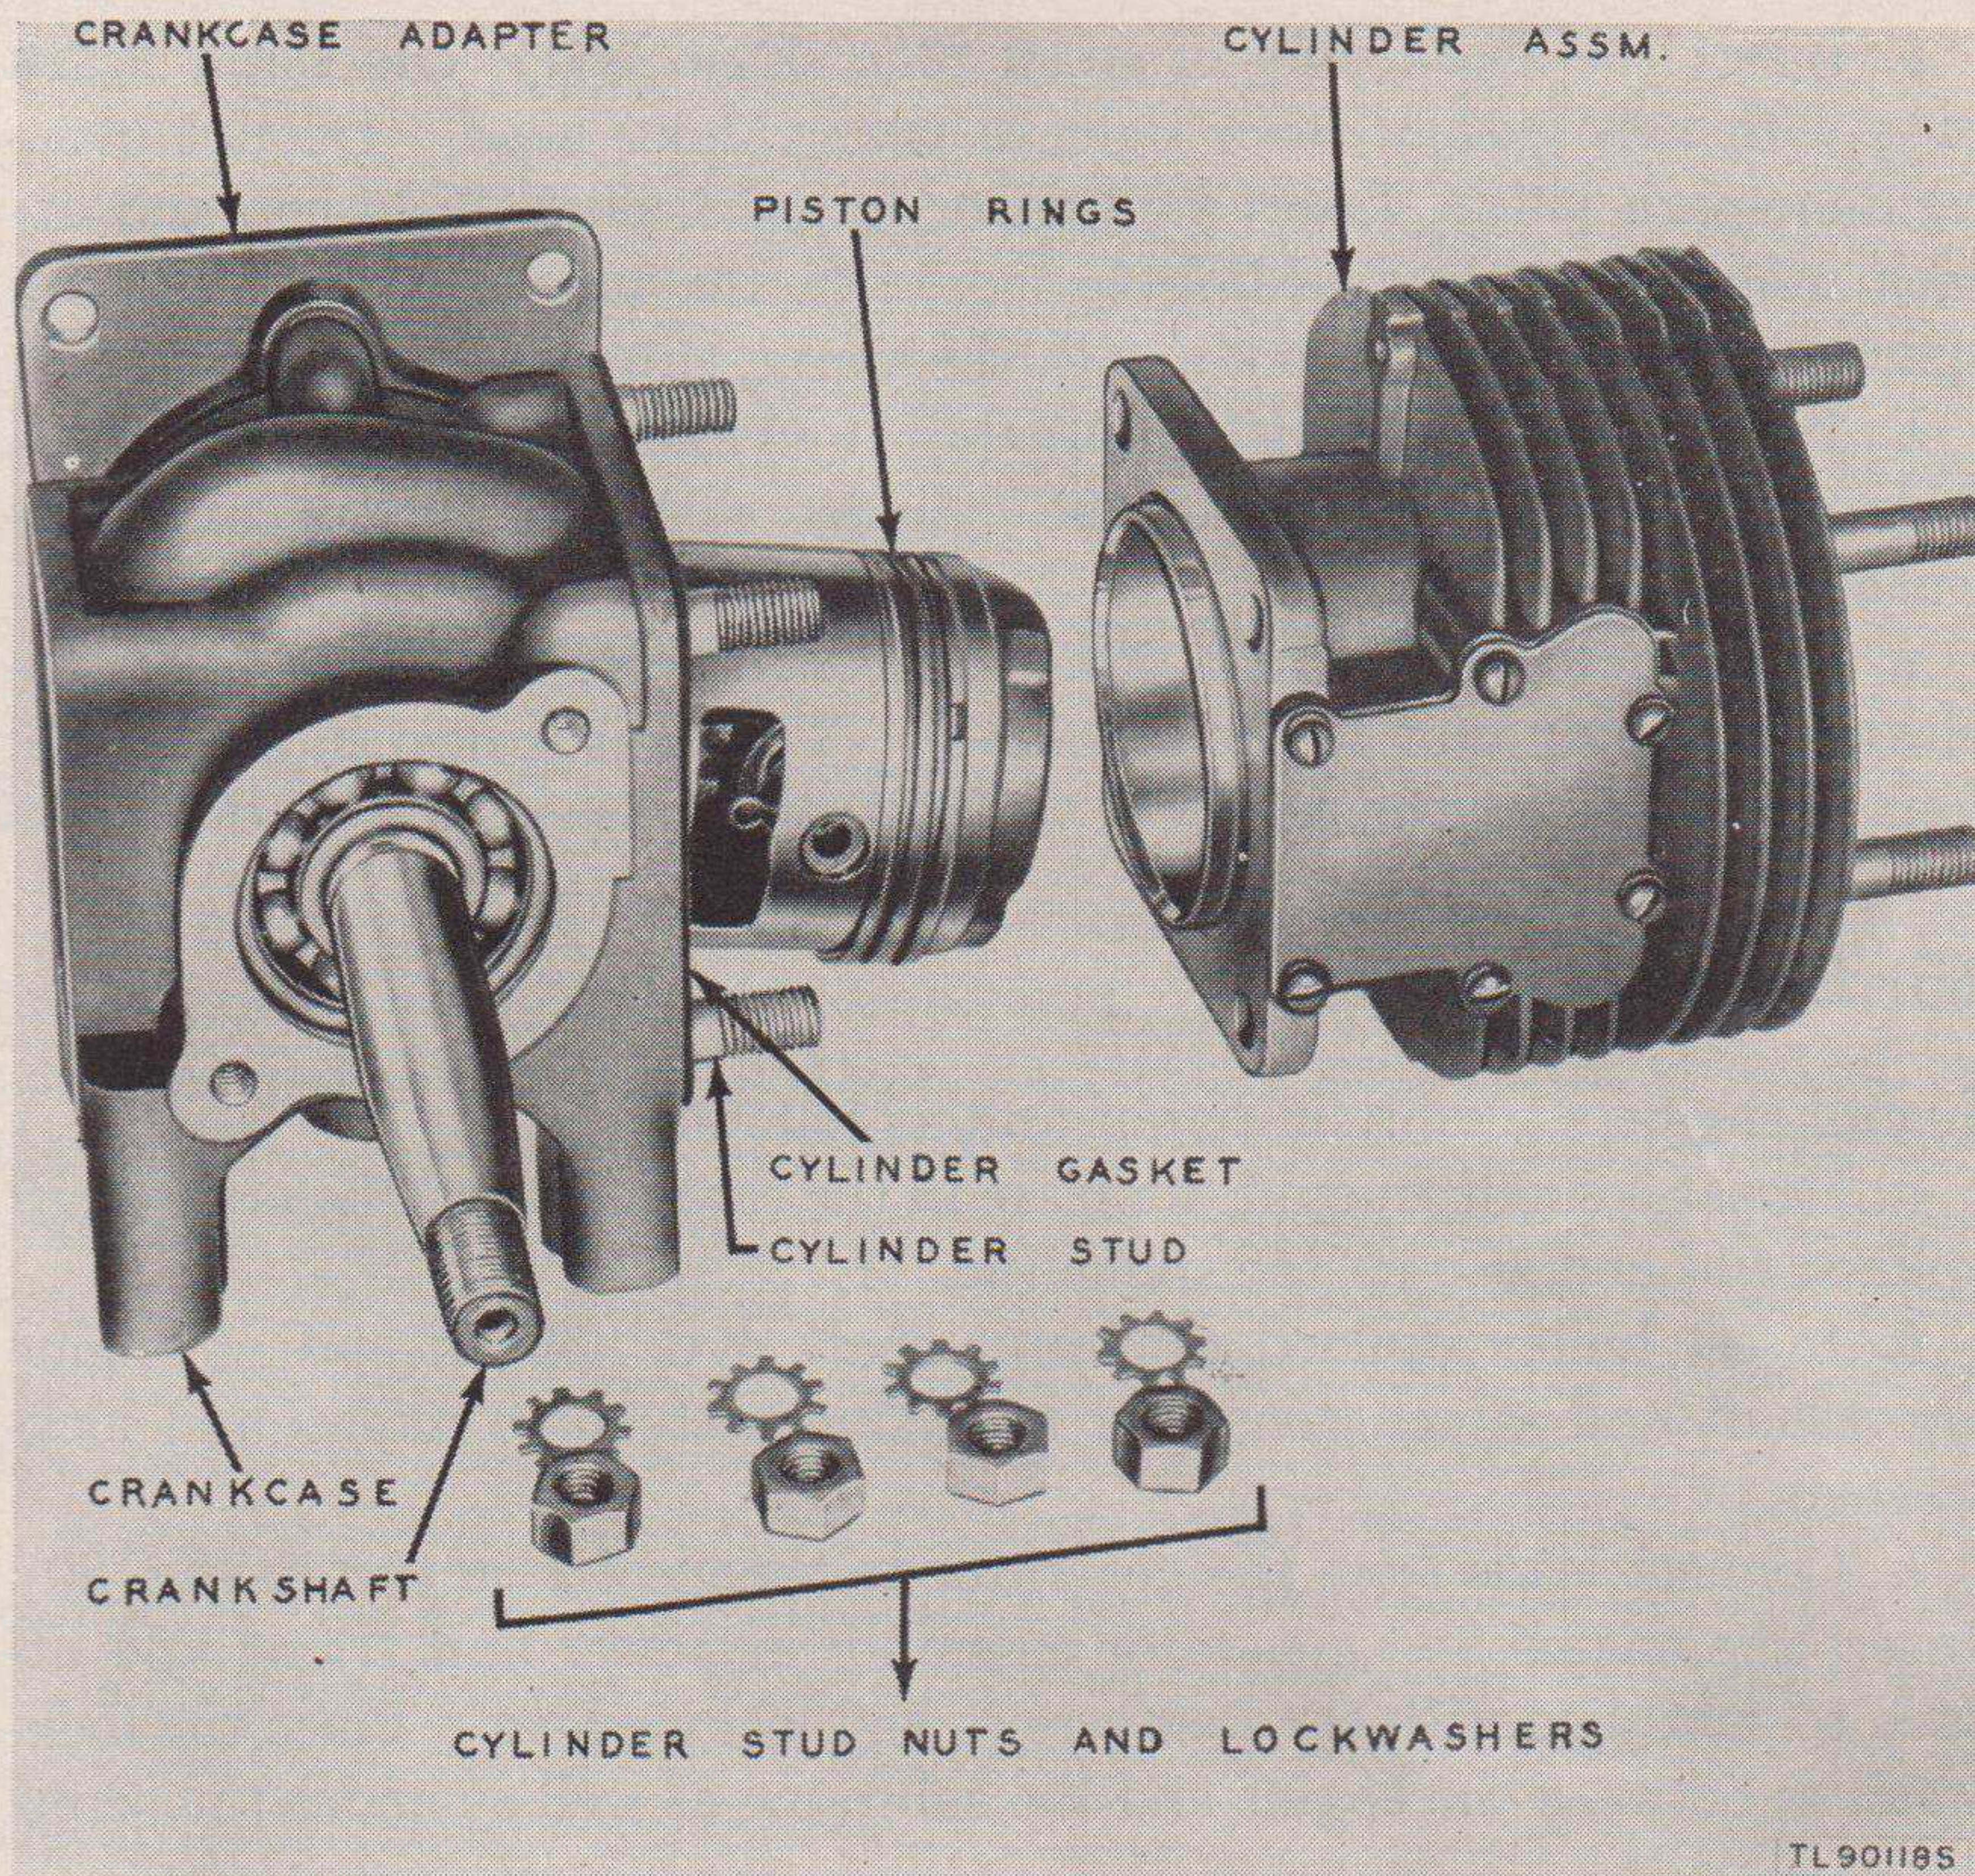

Figure 19. Cylinder removed from crankcase.
- (h) Remove the four nuts and lockwashers that attach cylinder to crankcase and withdraw cylinder from crankcase (fig. 19). Remove cylinder gasket.